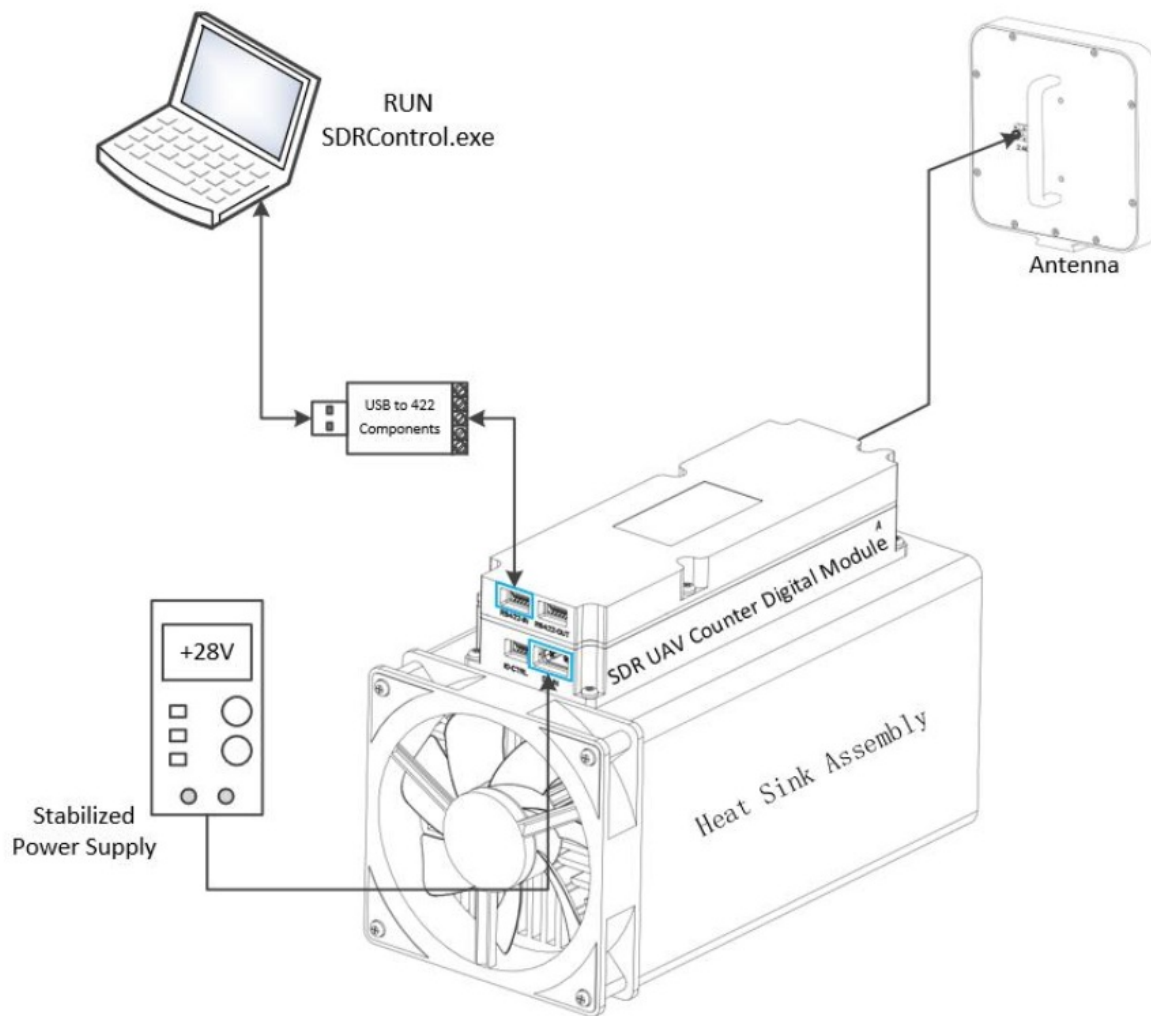

Figure 7
(2) Procedure
- 1 Connect the module to the computer according to Figure 7